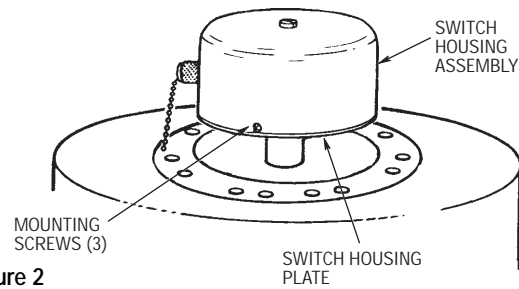

Figure 2
- 2. Remove the three switch cup screws from the switch housing plate. Position the switch housing assembly on the switch housing plate and align the holes in the switch housing assembly with the holes in the plate. Secure the switch housing assembly by installing the three screws (Figure 2).